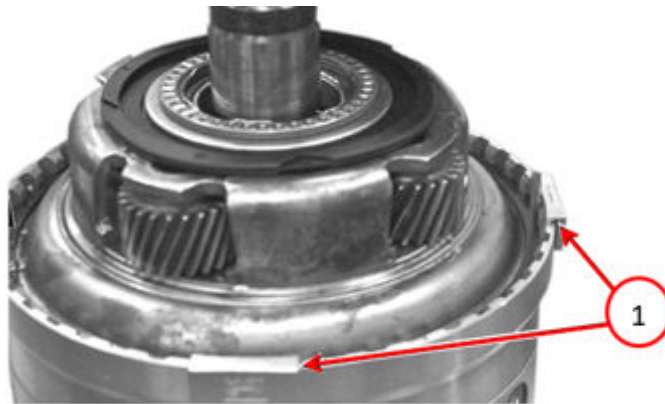

Fig. 22
31. Position the Rings Support on the P4 annulus drum assembly to protect the drum Fig. 22.